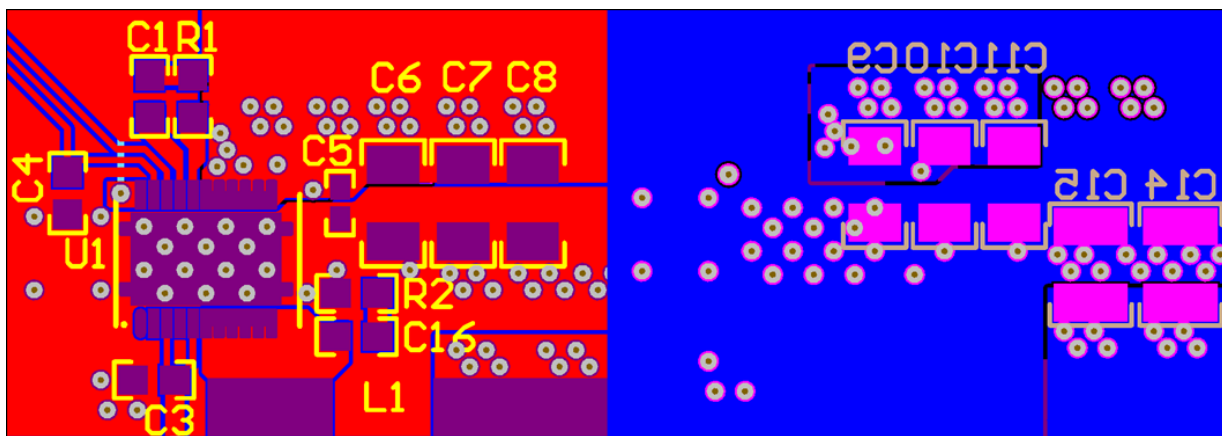

Figure 21. Recommended PCB Layout (Top Down View)
- The placement of the input capacitors relative to V_{IN} and P_{GND} pins of CSD95372AQ5M device should have the highest priority during the component placement routine. It is critical to minimize these node lengths. As such, ceramic input capacitors need to be placed as close as possible to the V_{IN} and P_{GND} pins (see Figure 21). The example in Figure 21 uses 1 x 3.3nF 0402 50V and 6 x 10μF 1206 25V ceramic capacitors (TDK Part # C3216X7R1C106KT or equivalent). Notice there are ceramic capacitors on both sides of the board with an appropriate amount of vias interconnecting both layers. In terms of priority of placement next to the Power Stage C5, C8 and C6, C19 should follow in order.
- Use the smallest drill size allowed in your design. The example in Figure 21 uses vias with a 10 mil drill hole and a 26 mil capture pad.